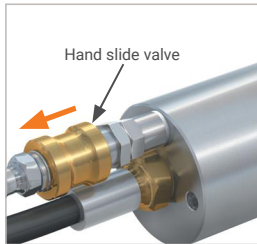

Figure 6
- ▶ Push the sliding sleeve of the hand slide valve (Pos. 6) backwards (*Figure 6*). The pilot pressure applied is vented. The front seals (Pos. 7) are relaxed, the connection to the test piece is released and the connector can be removed straight backwards.